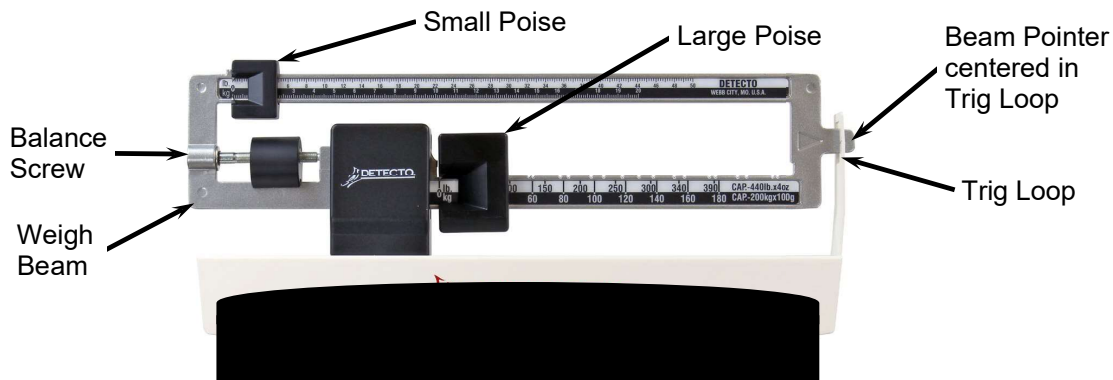

Figure 3 - View showing components for balancing scale before normal operation.
3. If the beam pointer doesn't remain centered, turn the balance screw (shown in Figure 3) to the right or left using a flathead screwdriver until the beam pointer remains centered within the trig loop.
2. Move both poise to the Zero position. Be sure the Beam Pointer is in the center of the opening in the Trig Loop. Refer to Figure 3.
Zero balance out of adjustment	<ul style="list-style-type: none"><li>The weighing beam must be balanced so the beam pointer comes to rest in the center of the trig loop when both the small and large poise is set at zero (far-left position). Refer to Figure 3 and BALANCING THE SCALE instructions.</li></ul>